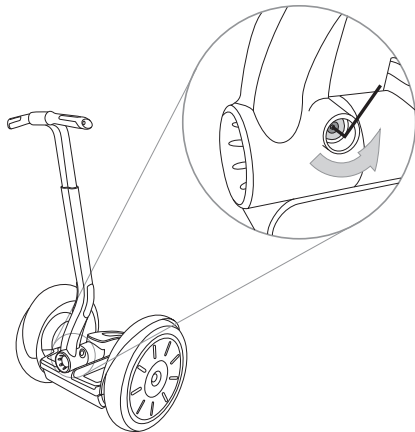

Figure 1. Remove LeanSteer Frame Fastener
2. Using a 5mm hex wrench, remove the fastener holding the LeanSteer Frame in place. See Figure 1.